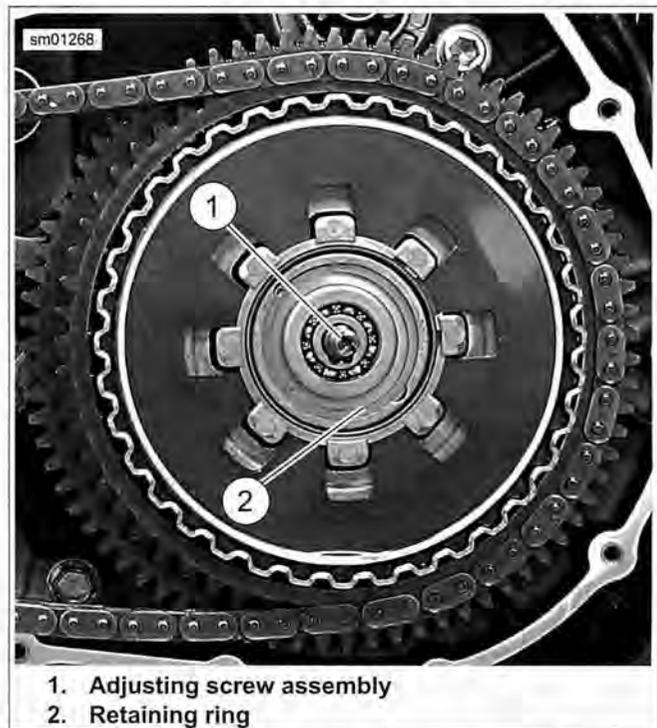

Figure 5-19. Clutch Adjusting Screw Assembly and Retaining Ring
- See Figure 5-19. Install adjusting screw assembly (1) in pressure plate, noting that two tabs on perimeter of release plate must be inserted into corresponding recesses in pressure plate. Secure assembly with a **new** retaining ring (2).